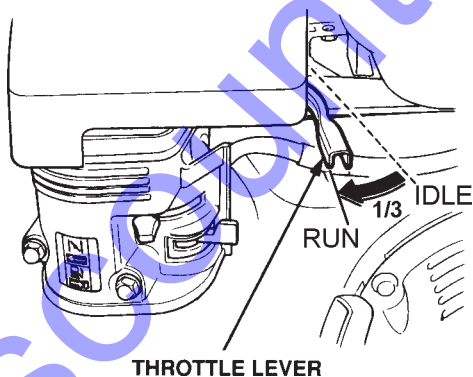

Figure 8. Throttle Lever (1/3 Start Position)
2. Move the *throttle lever* (Figure 8) away from the slow position, about 1/3 of the way toward the fast position.